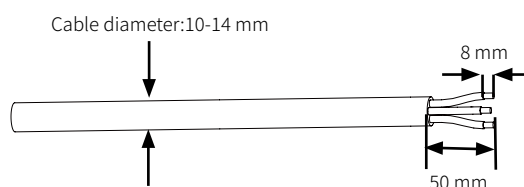

Fig. 54. Stripping the AC cable.
3. Pull the insulation sleeve out of the AC bundle by about 50 mm, and pull the insulation out the end of the L/PE/N cables by about 8 mm, as shown Fig. 54.